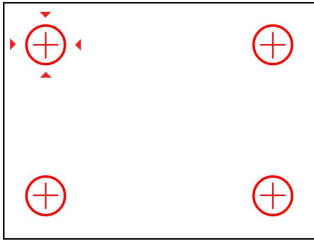

Figure 7-1
- After a period of time, the display screen will enter the key anti-false touch lock interface, and press the corresponding four buttons in turn to exit the interface, as shown in Figure 7-1 below.